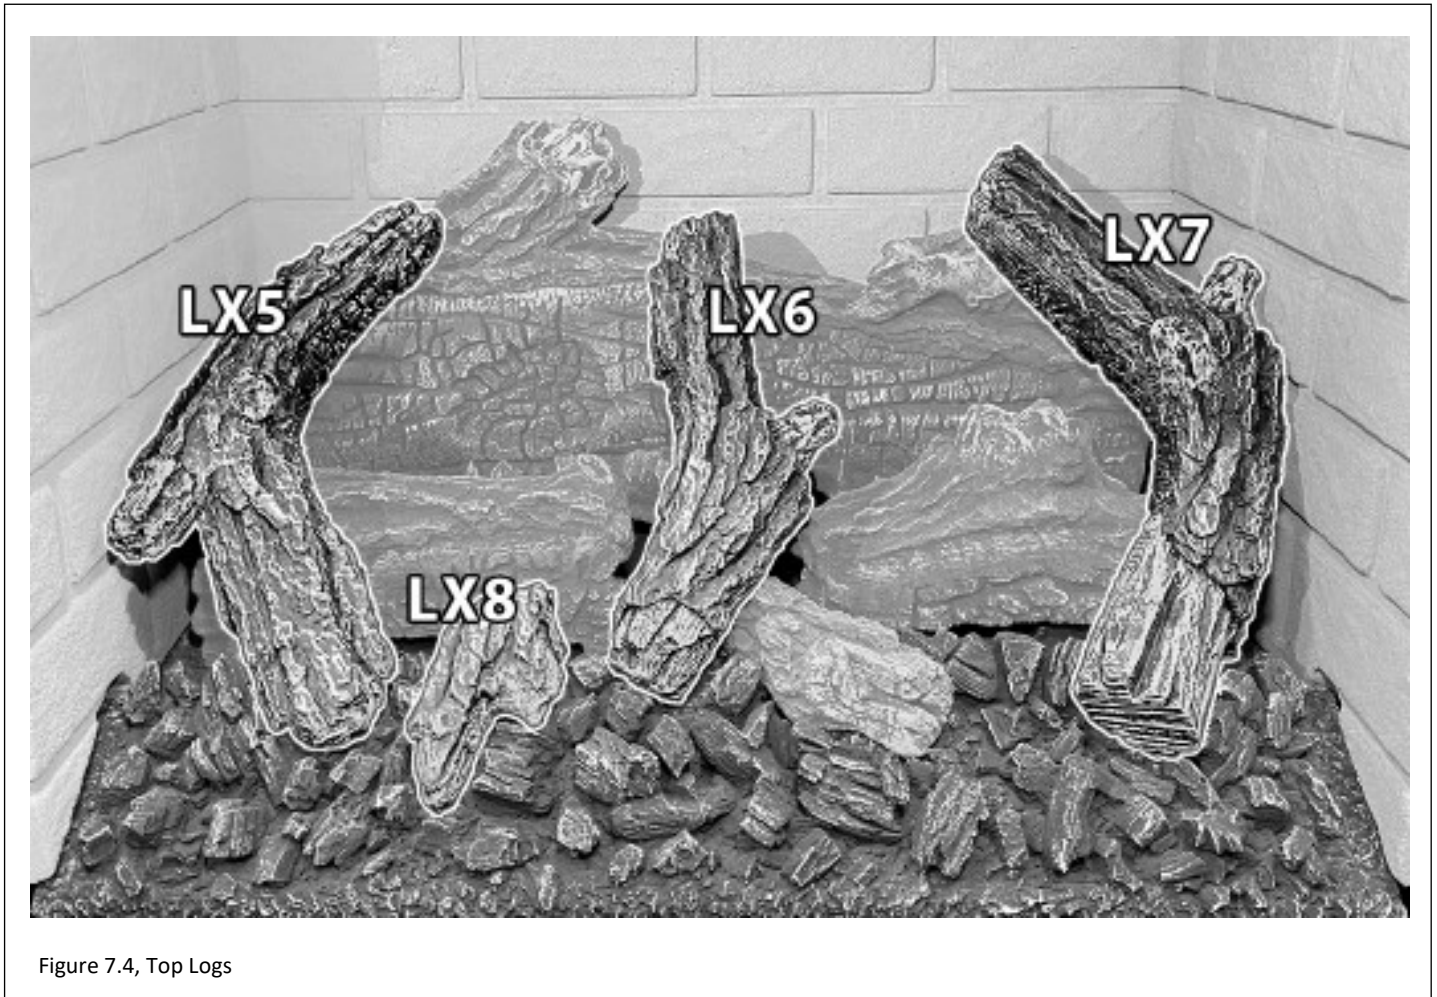

Figure 7.4, Top Logs
5. Align log LX5 with the left pin in log LX1 and the notch in log LX2 and position as shown in Figure 7.4.
6. Align log LX6 with the pin in the middle of log LX1 and the notch in the middle of the ash panel, and position as shown in Figure 7.4.
7. Align log LX7 with the right pin log LX1 and the notch in the right side of the ash panel, as shown in Figure 7.4.
8. Align log LX8 with the notch in the ash panel, as shown in Figure 7.4.